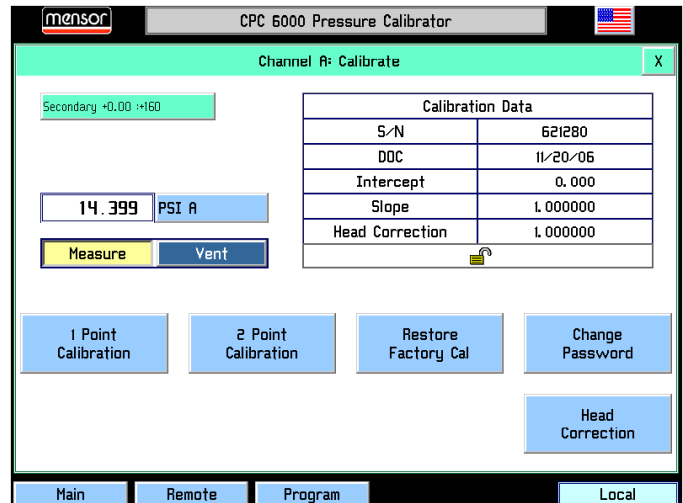
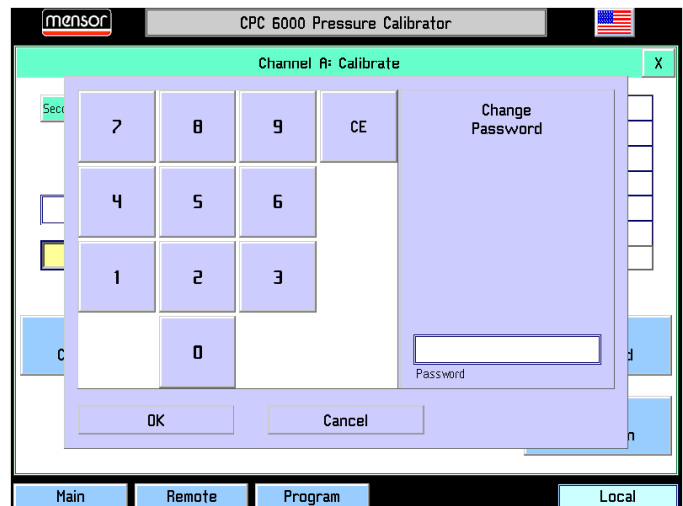

FIGURE 10.4 - UNLOCKED CALIBRATION DATA SCREEN
FIGURE 10.5 - 'CHANGE PASSWORD' SCREEN
4. The Calibration Data screen of Figure 10.4 is displayed. Use this screen to change the password to perform functions for 1 point calibration, 2 point calibration, restore factory cal, and head correction. Touch [Change Password] and the Change Password window appears as in Figure 10.5.
8. Confirm that the new password is valid by pressing [Main], then repeat steps 1 through 3 to return to the Calibration Data screen (Figure 10.4). If this screen can't be accessed using either the old or the new password contact Scanivalve.
The offset and slope values established for each turndown during the final factory calibration are stored in permanent memory within each transducer. These factory values can be restored at any time regardless of the number of subsequent calibrations. To restore the factory calibration to the active turndown, press [Restore Factory Cal] on the unlocked Data Entry screen seen in Figure 10.4. This will restore both the factory zero offset and slope calibration values to the active turndown. The [Restore Factory Cal] function can be repeated for each turndown as desired.